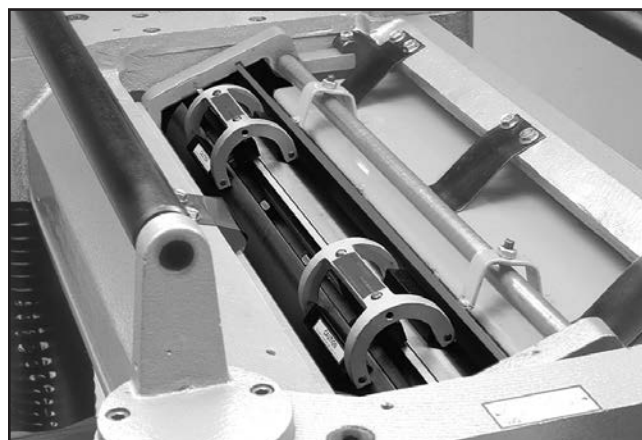

Figure 45. Planer Pal jigs holding knives for superior adjustment.
- **Planer Pal** — Using powerful neodymium magnets, Planer Pal (see **Figure 45**) holds knives in place while freeing both hands to tighten the gib. Place one of these jigs on each end of the cutterhead, and you can set the knives in perfect alignment every time.